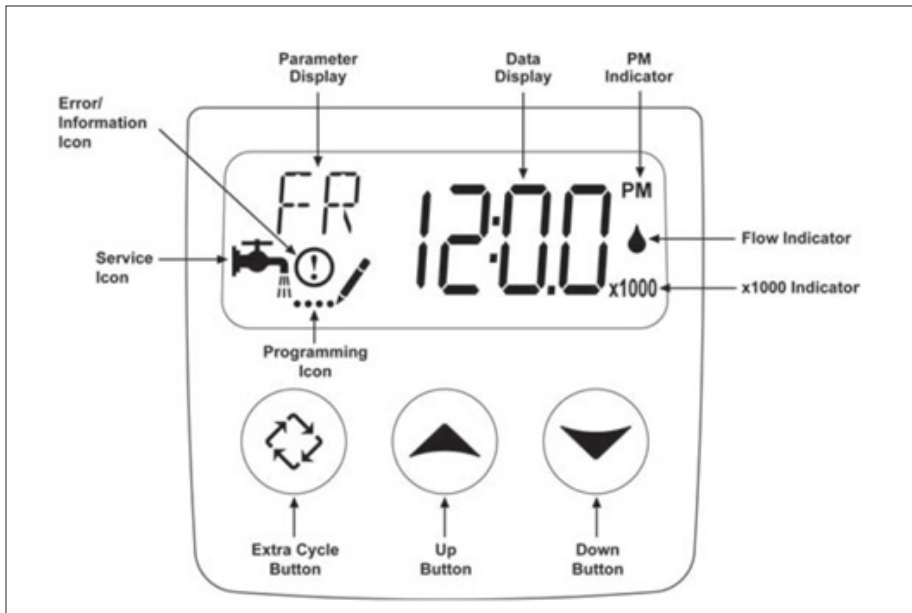

Figure 3. Softener Controller
- The drain line plumbing must be positioned and secured at least 2 inches above the drain (Figure 3). This air gap protects the system from contamination in the event of a backed-up drain.